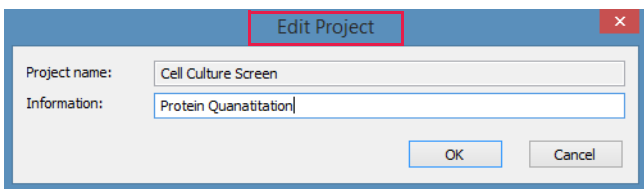

Figure C-20: Edit Project Dialog Box
2. Select **Edit Project** to display the Edit Project dialog box (Figure C-20).